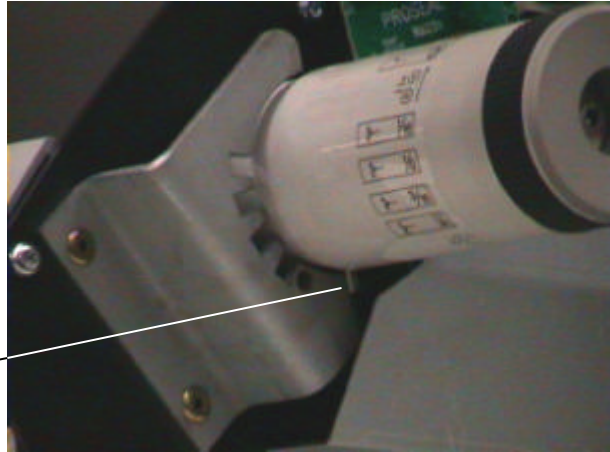

fig. 38
5. Push and rotate the nip setting knob **fully counter-clockwise**, until the pin, mounted in the knob, reaches its **lowest position** in the indent bracket. See figure 38.